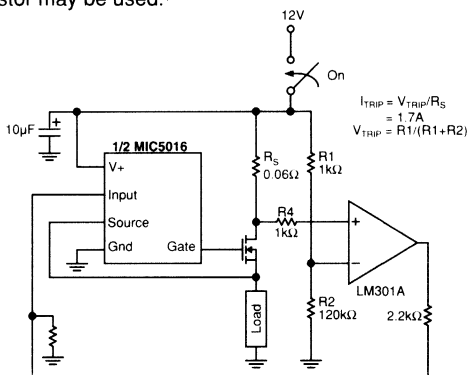

Figure 4. High Side Driver with Overcurrent Shutdown
**High Side Driver With Current Sense** (Figure 4) Although no current sense function is included on the MIC5016/17 devices, a simple current sense function can be realized via the addition of one more active component; an LM301A op amp used as a comparator. The positive rail of the op amp is tied to V-, and the negative rail is tied to ground. This op amp was chosen as it can withstand having input transients that swing below the negative rail, and has common mode range almost to the positive rail.